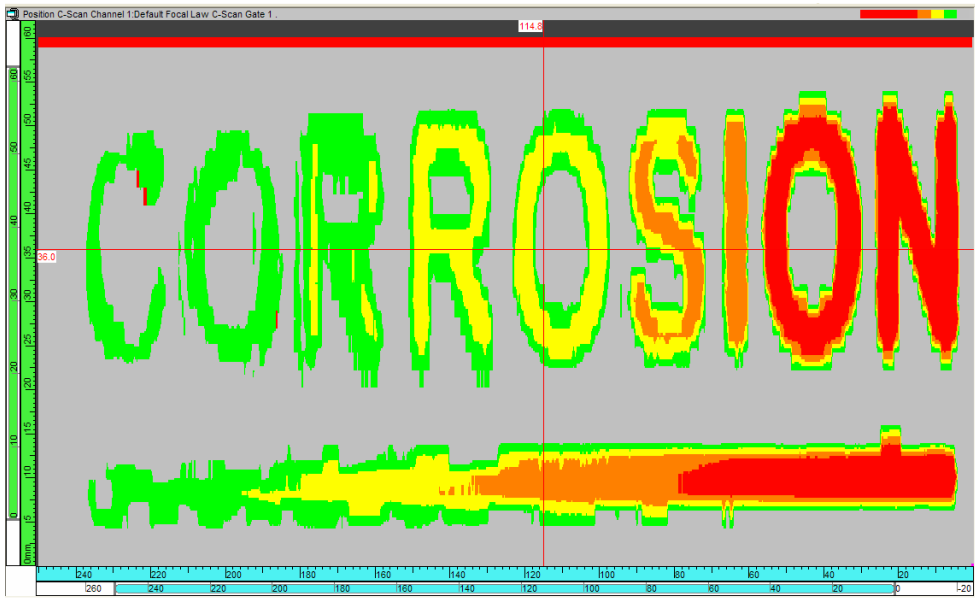

Figure 7-52 Example of corrosion visualization on a demonstration specimen
- a) Adjust the top and bottom color palette cursors to match, respectively, the maximum and minimum corrosion thicknesses of your specimen (see the example in Figure 7-52 on page 387)
The C-scan pane view should now highlight the corrosion of the specimen, such as in the example in Figure 7-52 on page 387.